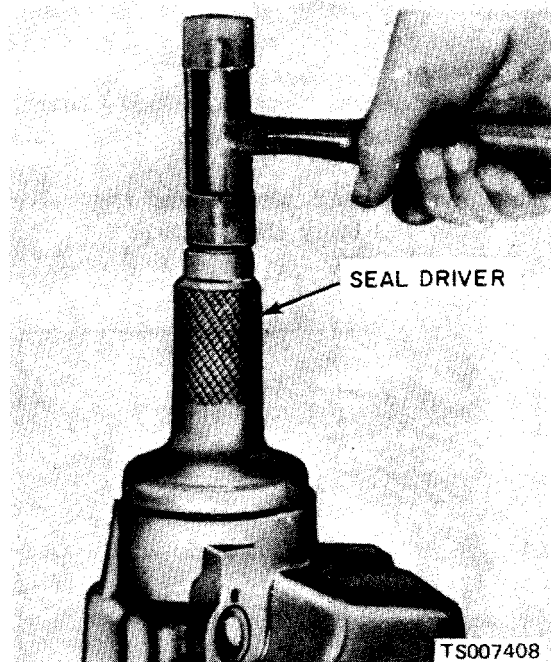

Figure 7-20. Installing Extension Housing Seal.
(1) Install the bearing retaining snap ring. Make sure the snap ring is fully seated in the ring groove of the housing.
(2) Install a new extension housing seal using the tool shown in figure 7-20. Install the output shaft flange retaining nut. Torque the attaching nut to 150-200 ft/lbs. Install the parking brake drum.